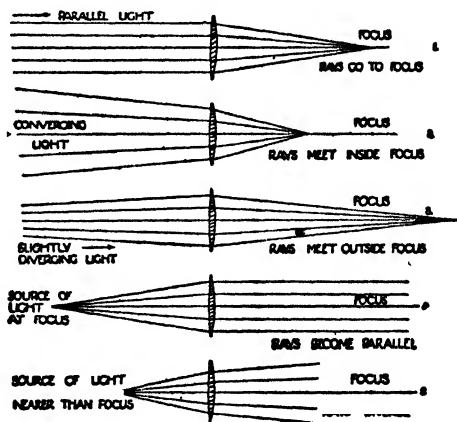

FIG. 295.—How a lens affects parallel, converging and diverging light-rays.
instruments to remove them. If the rays which fall on such a lens are converging, they will come to a point nearer to the lens than the focus (Fig. 295 (2)). If they are diverging fan-wise, they will either come to a point further away than the focus (Fig. 295 (3)), or if the source of the light is at the focus (4), the light will become a parallel beam or if the source of light is nearer than the focus they will diverge (5). This state of affairs is important to grasp as the action of the camera and the magnifying glass depend on it.
Now it is pretty clear that all the rays which go through the *centre* of the lens go on in the same direction unchanged, and we can also see from Fig. 295 that all the rays which are parallel to the axis of the lens go to a point called the focus. The more sharply the lens is curved, the nearer to it is the focus. If we